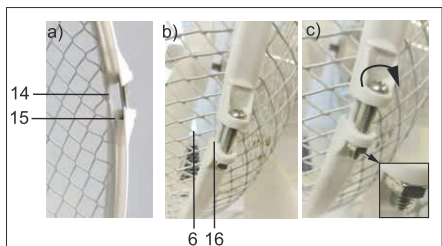

Fig. 17: Mounting of front protective grille
Fig. 17 a).
Fig. 17 b).
13. Tighten the Phillips screw further clockwise using a Phillips screwdriver. Fig. 17 c).
*The blower intensity can be adjusted in 3 steps by pressing the push buttons 0-3 (17, fig. 17):*